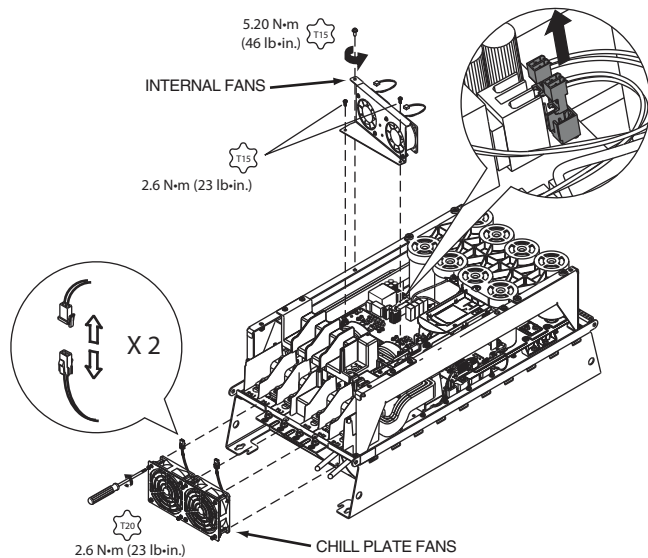

Fig. 27 — Chill Plate and Internal Fans, Removal and Replacement, Frame 7
4. Remove and replace the heat sink and internal fans. See Fig. 27.